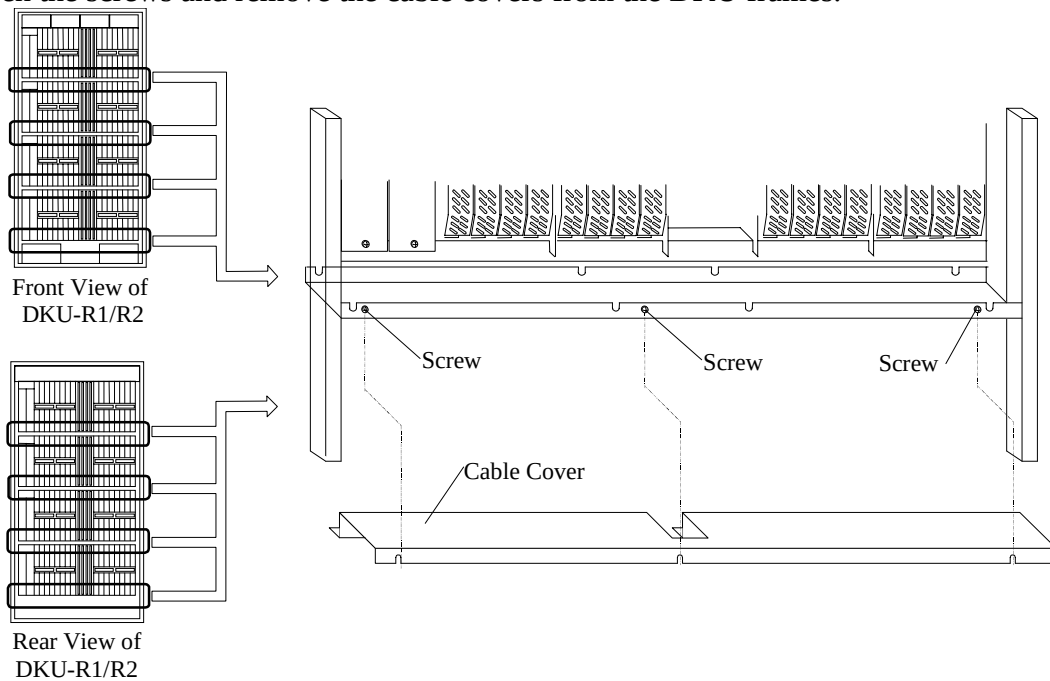

Fig. 3.11.8-9 Removal of Cable Covers
- c. Connect the DEV interface cables to the FSW PCBs in the DKU-R2 frame referring to Fig. 3.11.8-10 through Fig. 3.11.8-13.